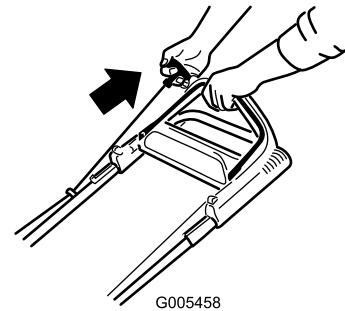
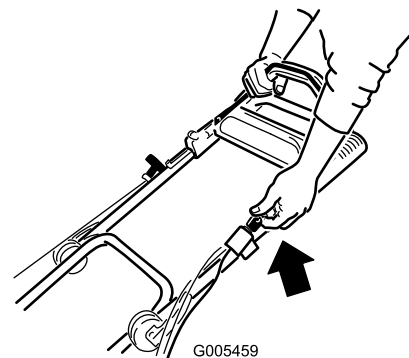

Figure 13
Figure 14
2. Pull the recoil starter (Figure 13) or turn the ignition key as shown in Figure 14 (model 447F only).